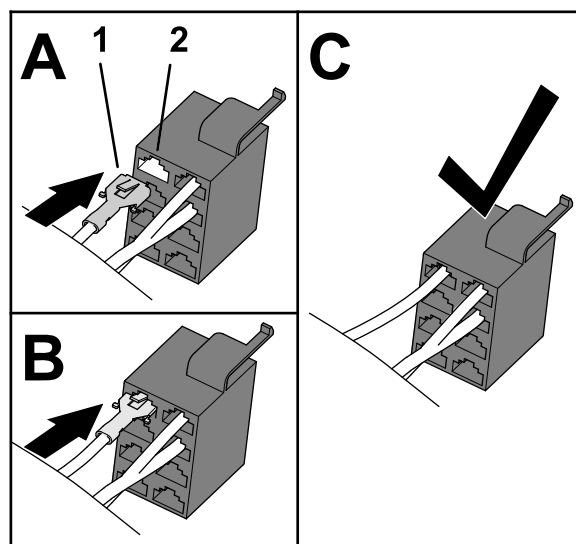

Figure 30
4. Insert the terminal into socket 1 of the 8-socket connector for the headlight switch as shown in Figure 30.